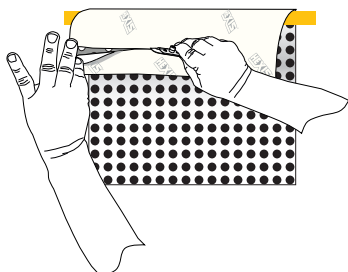

Figure 03
- › Make a slit with the SHAGCUT in the liner, at a distance of about 5 to 10 cm from the edge, then remove the upper part. (FIG. 03)